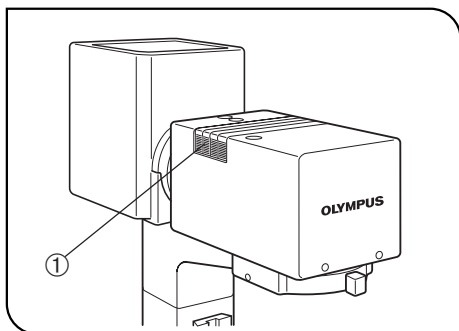

Fig. 23
(Figs. 23 to 25)
1. Place a finger on the milled section ① of the filter holder and lift it. (Fig. 23)
2. While holding the mounting lever ② of the filter holder, insert a filter.